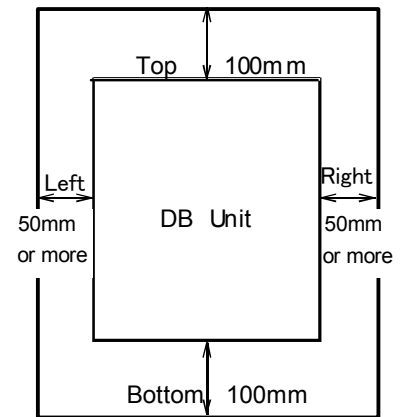

Fig. 2-2-1
- ① Securely fasten the DB unit in an upright position on a solid structure such that the characters of the label is facing the front. Do not turn the DB unit upside down or install in a horizontal position.
- ② As heat is generated during DB unit operation, the spaces shown in Fig. 2-2-1 are required to ensure sufficient cooling pass. As heat radiates upward, do not install the DB unit beneath a device sensitive to heat.
- ③ As the cooling fins may reach a temperature of 90°C during DB unit operation, ensure that the material of the attaching face at back of the DB unit can withstand this temperature.